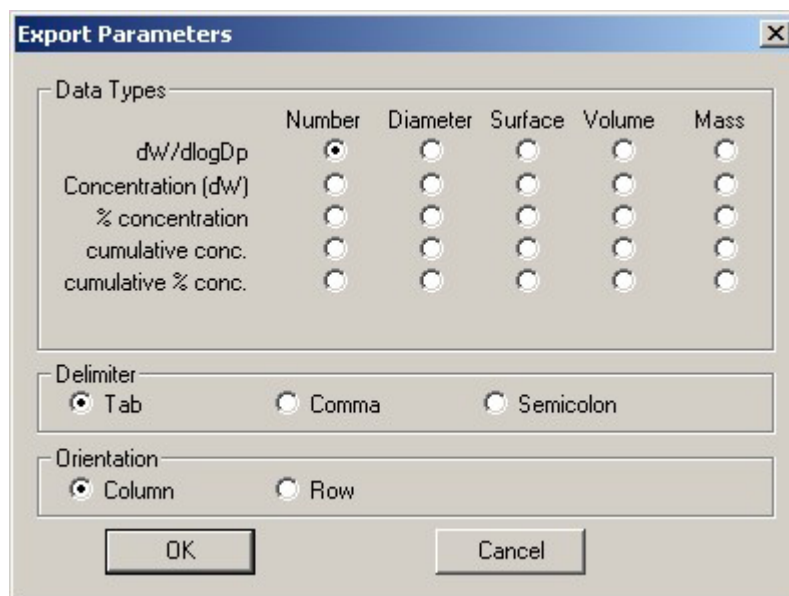

Figure 7-5
2. Select **File | Export to File**. An Export Parameters dialog box appears as shown in Figure 7-5.
3. Select **Run | Auto Export to File** before you begin to collect data. Select the type of data you want to export as well as the format you want to export the data in using the Export Parameters dialog box (see Figure 7-5 above).